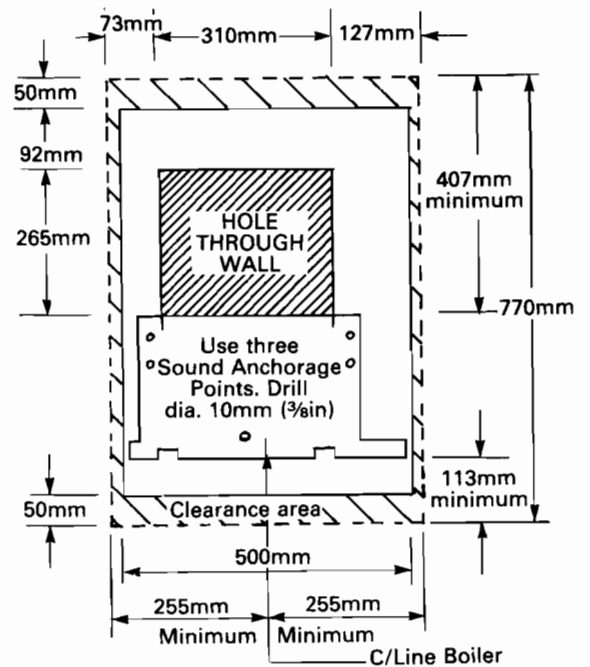
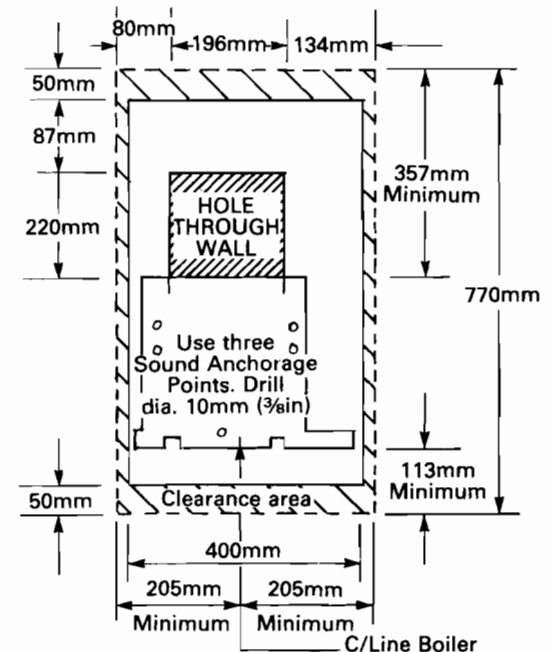

Fig. 2. Wall Mounting Plate Requirements WM 51/3RS
Fig. 4. Wall Mounting Plate Requirements WM 30/3 RS WM 20/3 RS
- (c) Position the centre line marking on the bottom edge of the wall mounting plate to correspond with the chosen centre position (see Figs. 2, 3 & 4).
- (i) Mark off the position of the bottom and side edges of the flue opening (the sides are indicated by the marks on the top edges of the wall mounting plate. For WM 51/3 RS see Fig. 2, for WM 30/3 RS and WM 20/3 RS see Fig. 4.
- (b) Complete the marking out of the hole for the flue ducting above the marked lines, and then cut out a neat hole (for sizes see Figs. 2, 3 & 4 respectively).